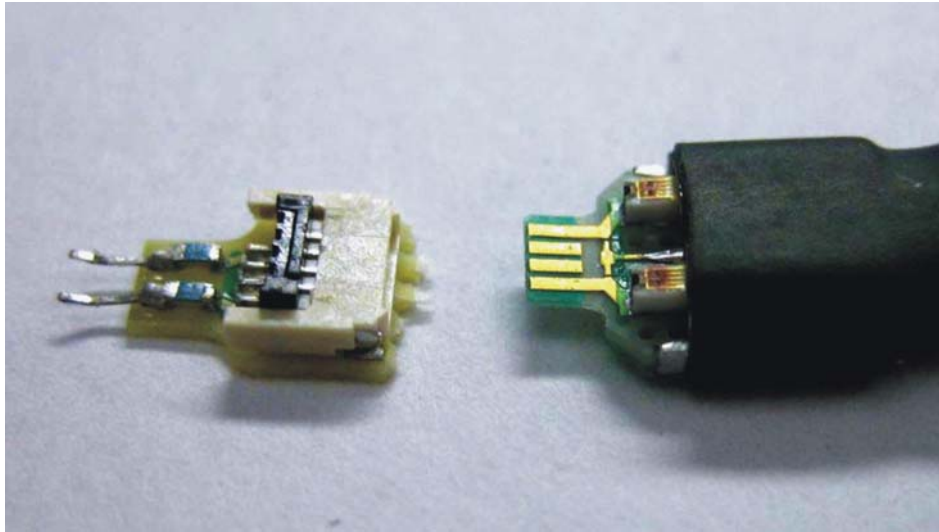
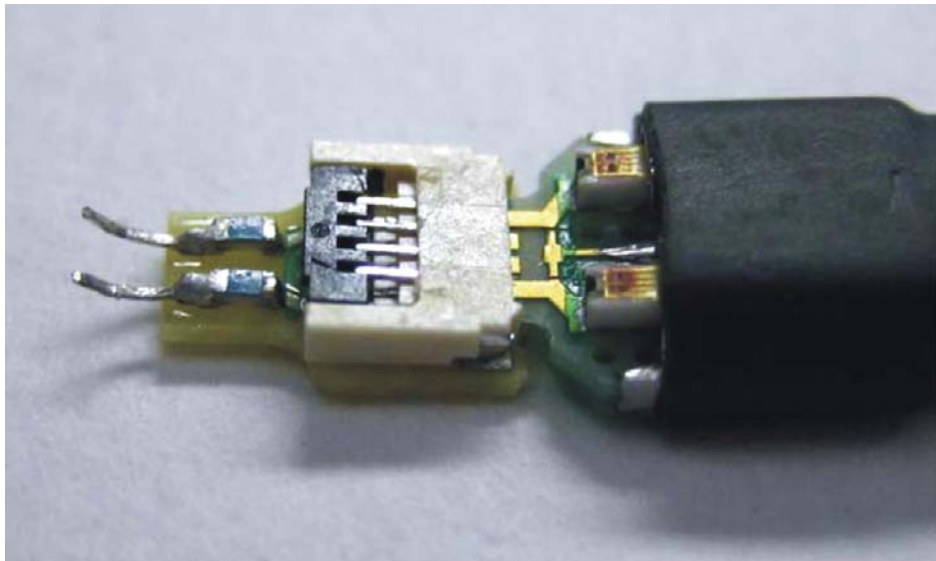

Figure 2-30 ZIF tip (open position) and ZIF probe head
Figure 2-31 ZIF tip (closed position) with ZIF probe head inserted
A close-up of the ZIF tip and the ZIF probe head before the probe head is inserted into the ZIF tip is shown in Figure 2-30. Note that lever on the ZIF tip is shown in the open position (pointed up) which allows the insertion of the probe head contacts into the ZIF tip with zero insertion force.
A close-up of the ZIF probe head inserted into the ZIF tip is shown in Figure 2-31. Note that now the lever on the tip is in the closed position (down, rotated 90 degree to the left) which closes the contacts of the ZIF connector.
- 4 Installation of ZIF tip. Connect the ZIF tip to the ZIF probe head as shown in Figure 2-30 and Figure 2-31. This allows the probe to be used as a handle for the ZIF tip to allow positioning in the DUT. Position the lead wires on the target points and then briefly heat the solder joints. There should be enough solder to form a good fillet and enough flux to make the joint shiny. There should not be so much solder that the big solder ball is formed that could cause a solder bridge or overheat the leads on the ZIF tip. This is shown in Figure 2-36.